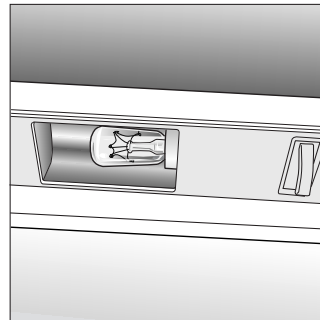

Fig. 3
- Replacing the light bulb. Unscrew the burned out bulb and replace it with another bulb with a wattage no higher than 15 Watt (fig. 3).